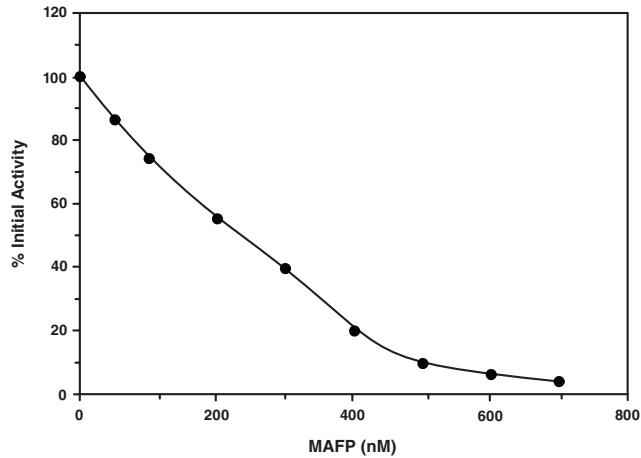

Figure 3. Inhibition of human plasma PAF-AH by MAFP ( $IC_{50} = 250$  nM).
*NOTE: If not using the entire plate, then reconstitute only one of the Substrate vials. The final concentration of 2-thio PAF in the assay as described below is 348  $\mu$ M. This concentration may be reduced with Assay Buffer at the users discretion, particularly when complete inhibition curves are required for  $IC_{50}$  or  $K_i$  determination. For competitive inhibitors, the  $IC_{50}$  value is dependent upon the Substrate concentration and must be reported in the results. An example is exhibited in Figure 3 on page 14 using the inhibitor methyl arachidonyl fluorophosphonate.*